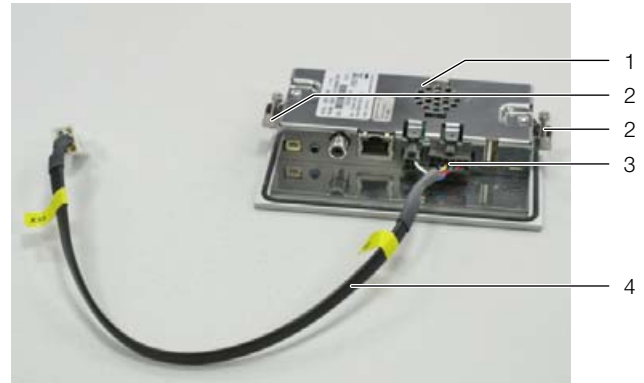

Fig. 30: Preparing the graphic display
- Insert the fixing clamps with screws (Fig. 30, item 2) on the left and right of the display.
- Insert the connection cable (Fig. 30, item 4) into the bottom of the display (Fig. 30, item 3).